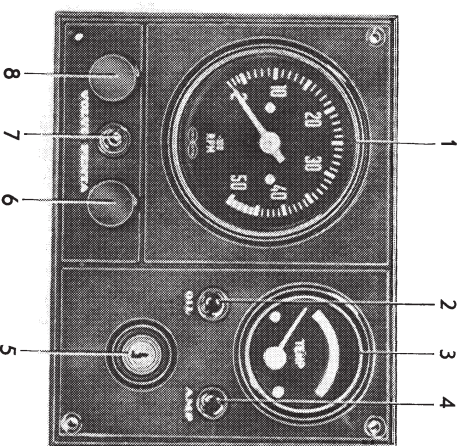

Fig. 6. Instrument panel
4. Turn the starting key to position 3, and check that the control lamp,7 Fig. 6, lights up. Keep the key in this position 40—60 seconds so that the glow plugs are pre-heated (the time varies with the engine temperature).